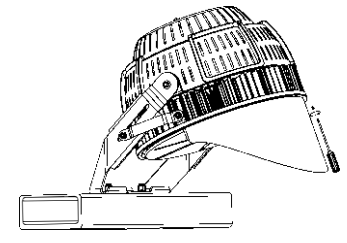

Figure 11
7. Fix the light shield to the luminaire with a screwdriver as required (Figure 11);